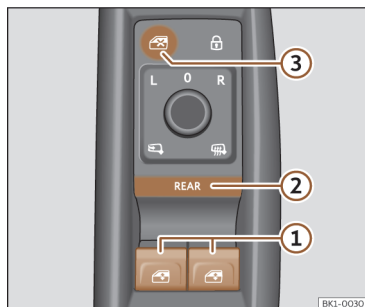

Fig. 69 Detail of the driver's door: window controls.
- ① Electric window operation buttons.
- ② Button **REAR** for activating the electric window operation and comfort opening and closing.
- ③ Button to deactivate the electric window operation buttons on the rear doors.
By default, the electric windows on the front doors can be operated with the buttons **>>> Fig. 69 ①**.
REAR Briefly press the button **>>> Fig. 69 ②** to activate the operation of the rear door electric windows. When the operation of the rear door electric windows is activated, the button's light is on.
- Press the button **>>> Fig. 69 ③** to deactivate the electric window buttons located on the rear doors. When these buttons are deactivated the button light turns out.